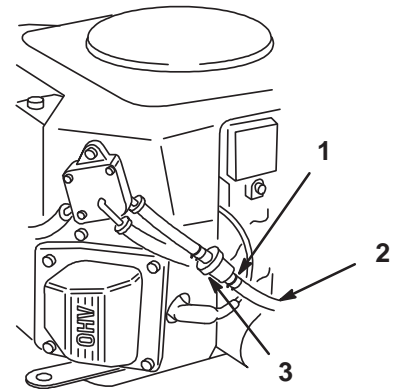

Figure 30
4. Squeeze the ends of the hose clamp together and slide it up the fuel line toward the fuel tank (Fig. 30).
5. Pull the fuel line off the filter (Fig. 30). Open fuel shut-off valve and allow gasoline to drain into a gas can or drain pan.